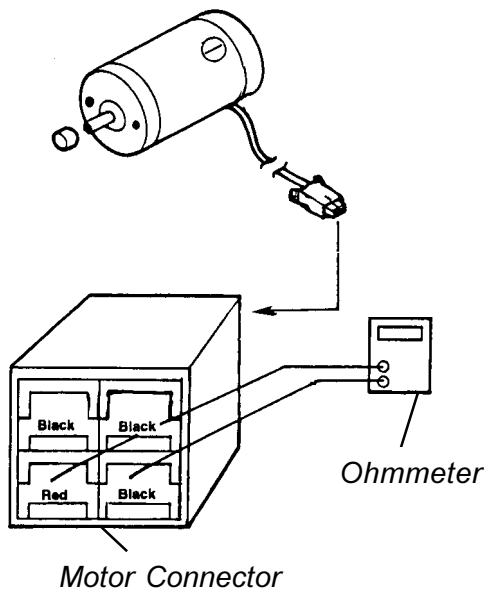

FIGURE 3 - MOTOR TESTING
**MOTOR TESTING (FIGURE 3)**
1. On the 4-pin motor connector, locate the two (2) contacts in the red and black housings.
3. Measure the resistance between the two (2) motor contacts.